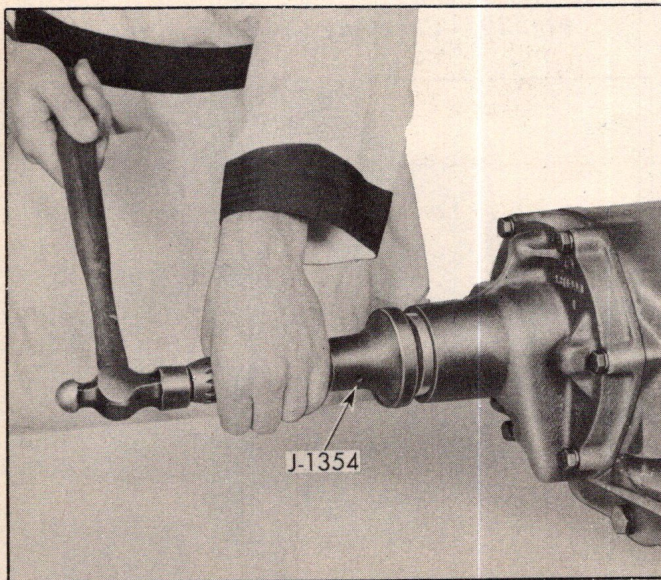

Fig. 300—Installing Rear Bearing Retainer Oil Seal
8. Install new rear bearing retainer oil seal using tool J-1354 (Fig. 300).